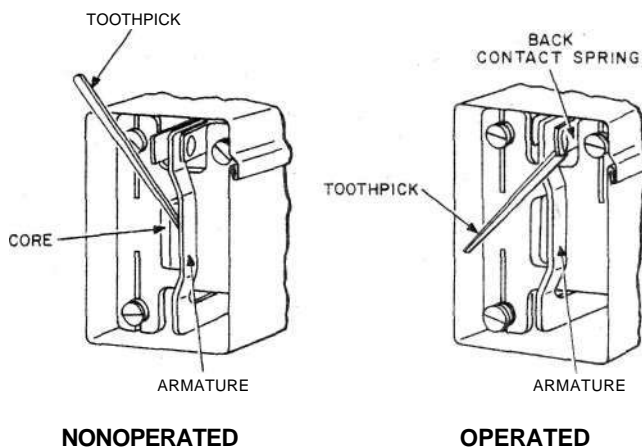

Fig. 4—Blocking B-, G-, and J-Type Relays
3.02 B-, G-, and J-Type Relays: Fig. 4—Block relays nonoperated by inserting a toothpick between the core and the armature. Block relays operated by inserting the flat end of a toothpick between the back contact spring or backstop and the upper part of the armature. Take care not to insert the toothpick between the contacts.